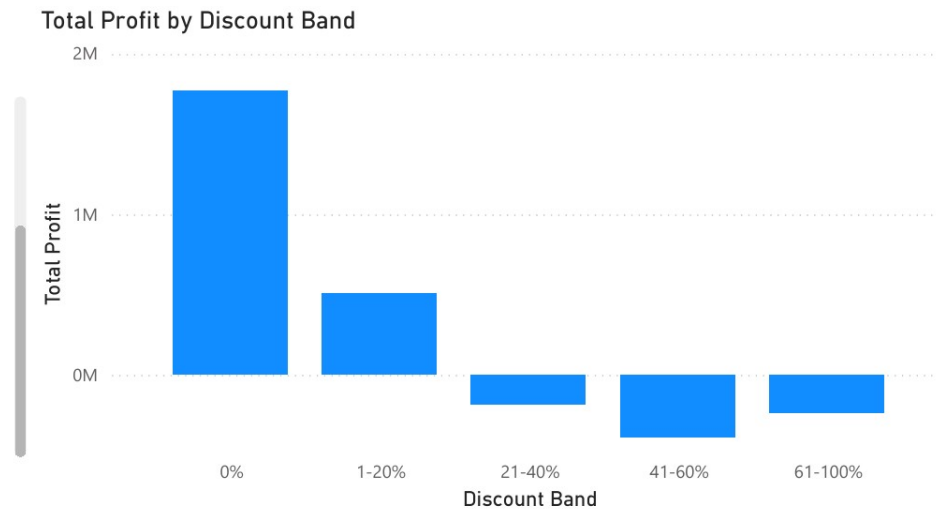

Figure 5: Total Profit by Discount Band (uses the Discount Band calculated column).
- **Cap discounts at 20%.** Figure 5 shows every band above 20% is loss-making; a hard cap with sign-off above it would recover \$800K+ of profit.